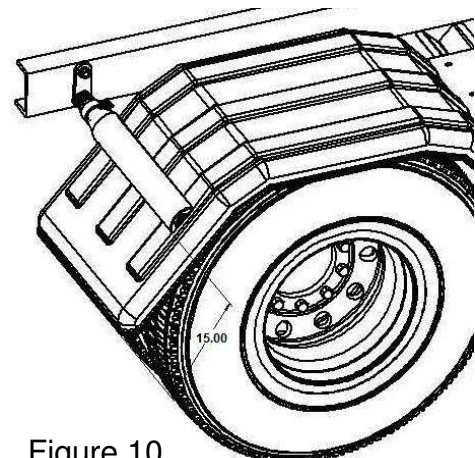

Figure 10
- D. If possible, place the brackets within 15" of the bottom of the leading edge of the fender to avoid wind blowing the fender back into the tire (Figure 10).